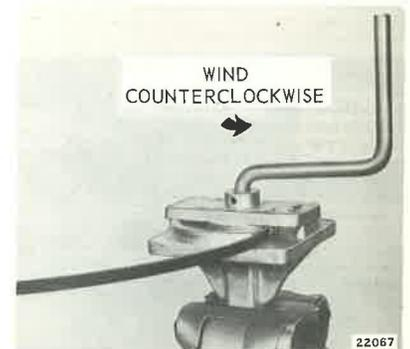

Figure 8-6. Winding In Spring
- b. Hook inside loop of spring over pin in crank portion of tool locating spring in opening in base. See Figure 8-6.